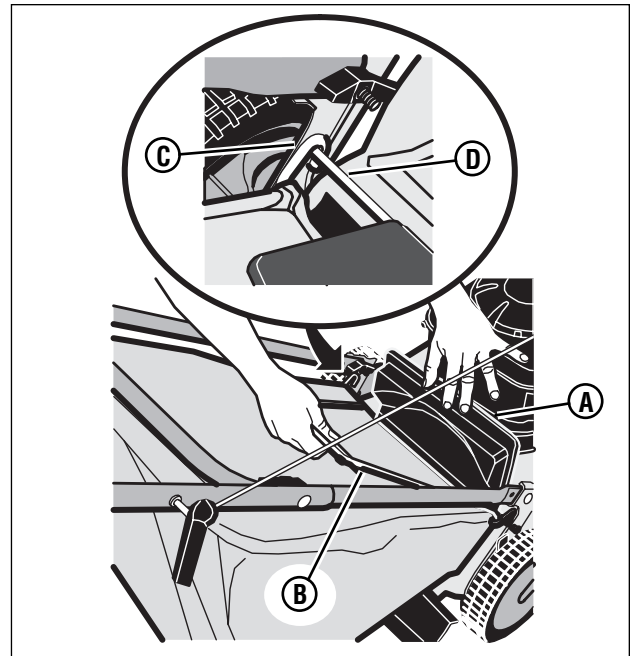

Figure 7: Mounting the grass bag
1. To mount the grass bag on the mower, raise the rear door (A, Figure 7). Holding the grass bag by the handle (B), mount the hooks (C) on either end of the grass bag frame assembly onto the rear door pivot rod (D). Lower the grass bag against the rear of the mower. Lower the rear door.